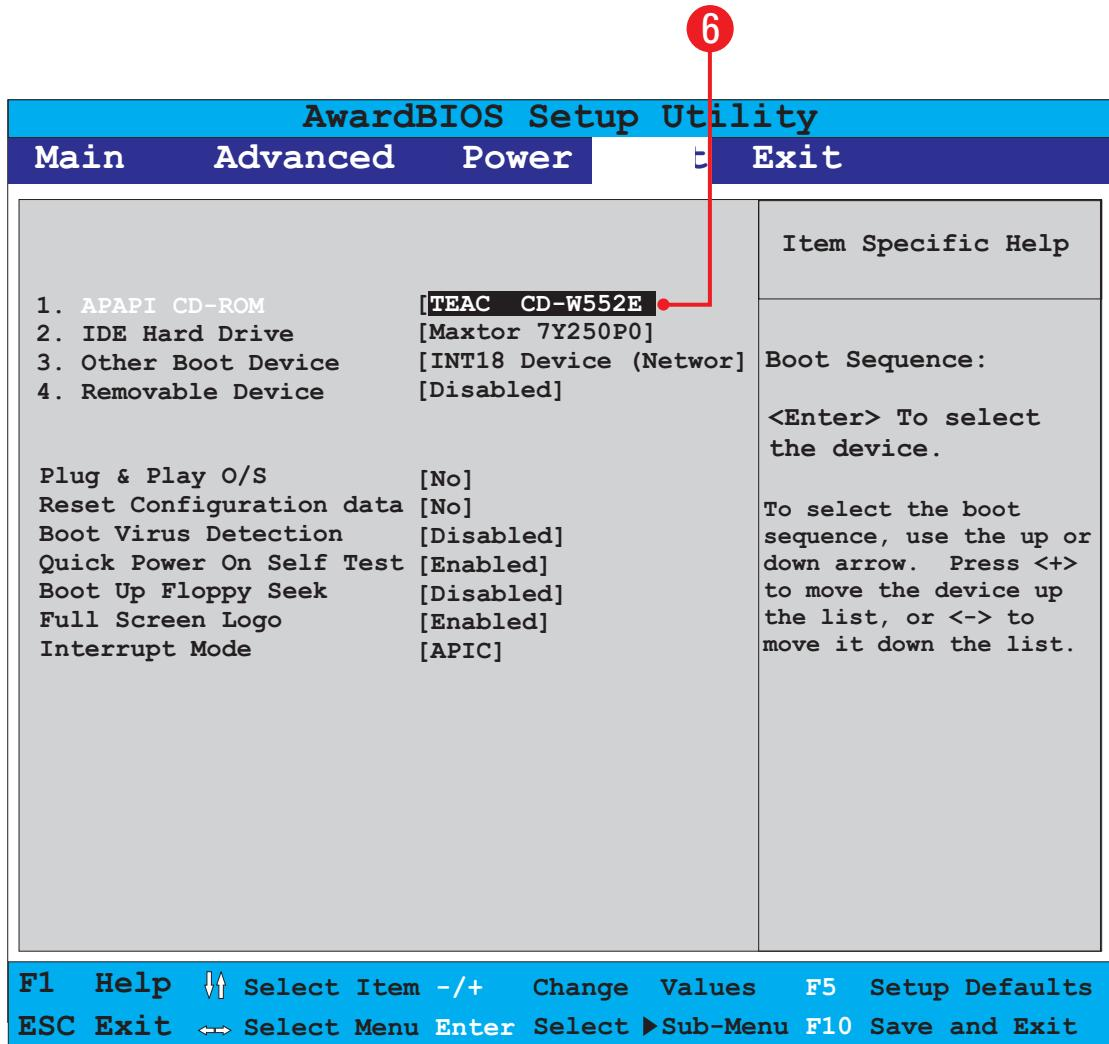

Figure 22. BIOS Boot Screen with CD/DVD Drive at Top
6. Press the minus (-) key on your keyboard to change the boot sequence from the hard disk to the CD or DVD drive installed on your system. The screen should look something like the example in Figure 22.